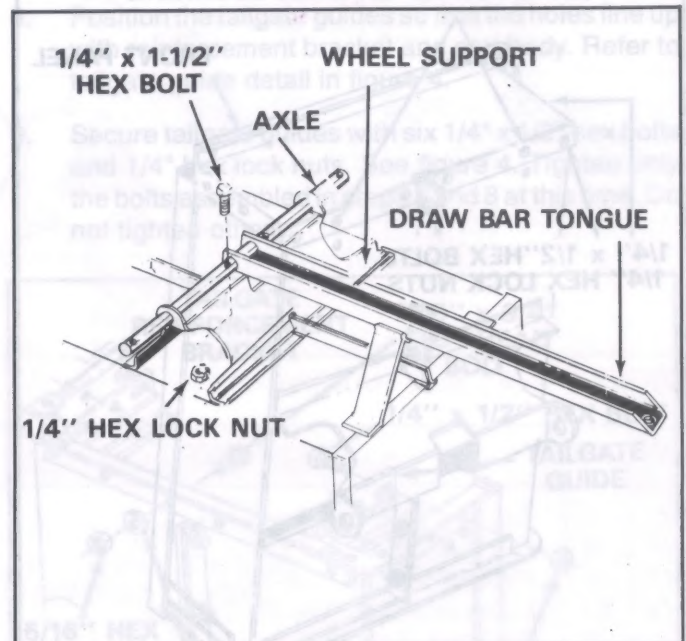

FIGURE 12
14. Tighten all bolts assembled in steps 4 through 13, lower cart assembly to rest on top flanges, with axle support up. See figure 12 on page 6.
18. Assemble axle and draw bar tongue to wheel support keeping open side of tongue facing up, make sure that latch lock snaps over latch stand. Secure axle to wheel support or axle brackets, using 1/4" x 1-1/2" long hex bolts and 1/4" hex lock nuts. See figure 12.